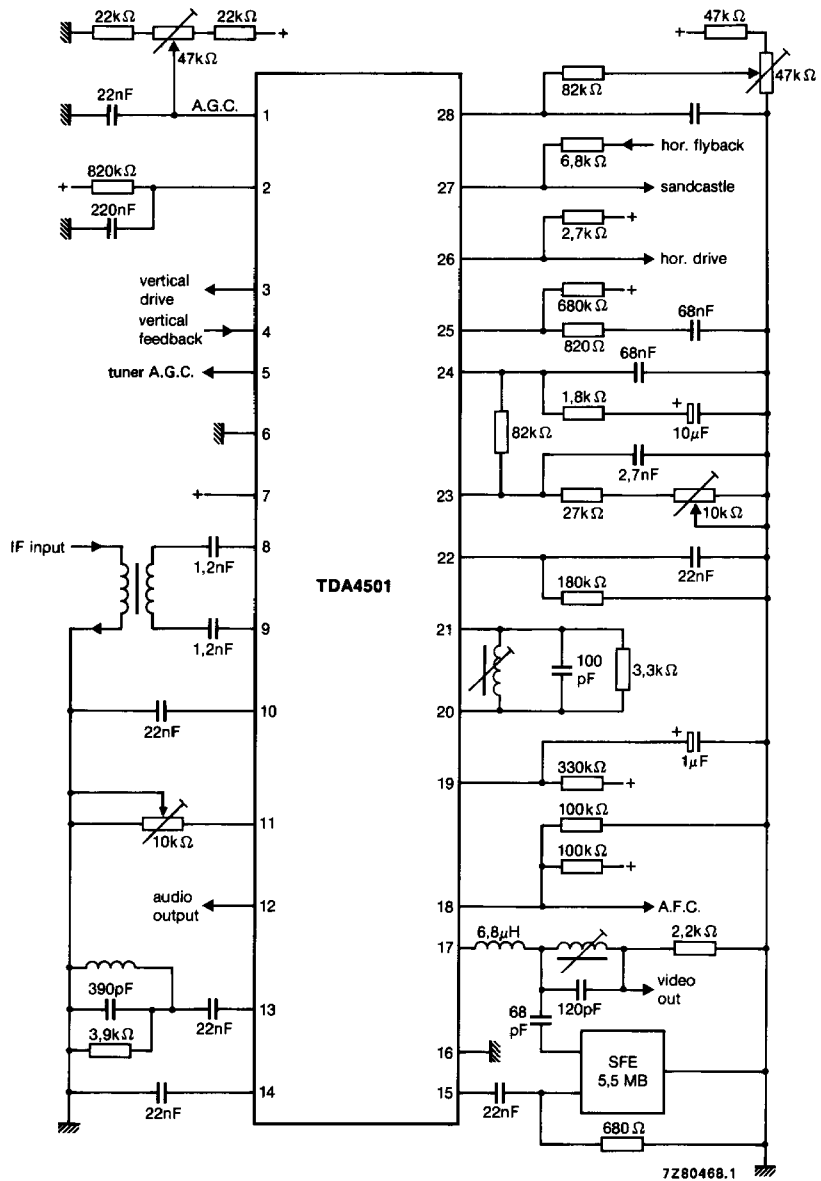

Fig. 2 Application diagram.
4.  $V_i(\text{rms}) = 10 \text{ mV}$ ; see Fig. 2; Q-factor = 36.